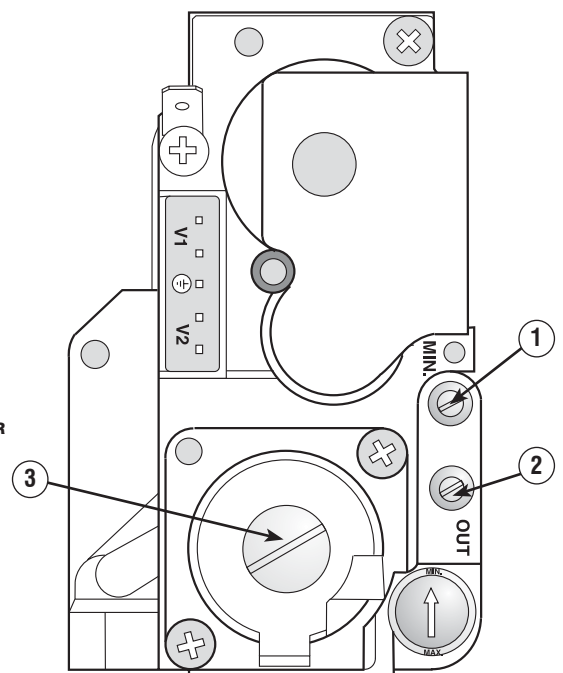

FIGURE 7.
- 11.4.1 Loosen the screw on the outlet pressure test point and fit a pressure test gauge (see Figure 7)
- 13.3.1 Loosen the screw on the outlet pressure test point and fit a pressure test gauge (see Figure 7)